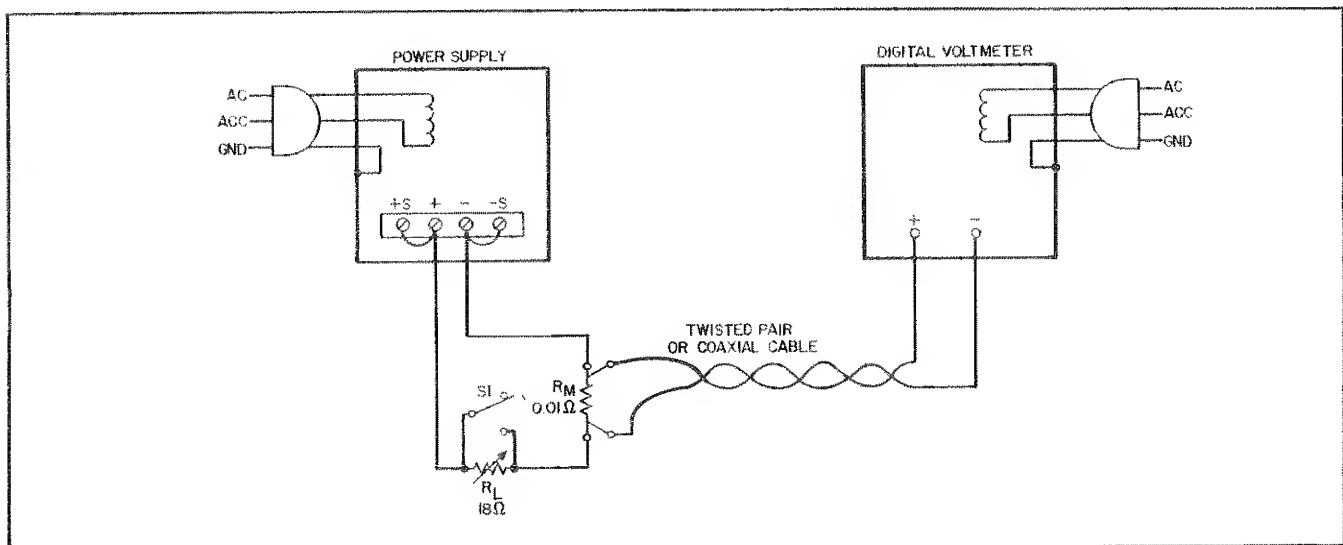

Figure 5-7. Constant-Current Test Setup
- Connect test setup shown in Figure 5-7. Set R_L to minimum resistance initially.
- Connect test setup shown in Figure 5-7.